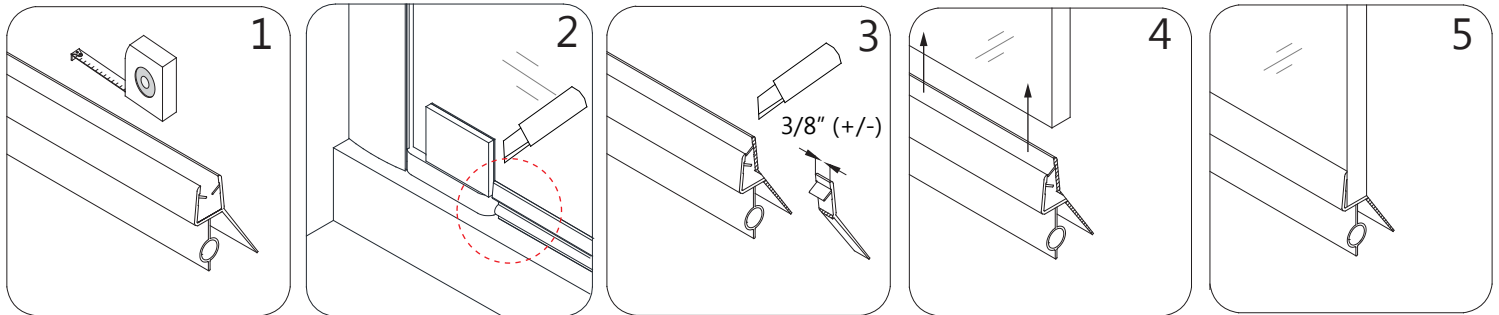

Fig 16
16. Cut the **Sweep Vinyl Seal (#11)** to the width of the **Door Glass (#03)**. Next, trim the **Sweep Vinyl Seal (#11)** to size up to the bottom pivot. Close the door and notch off the deflector on the inner side of the **Sweep Vinyl Seal (#11)** where it overlaps the strike vinyl when the door is closed (Fig 16.3). Press the **Sweep Vinyl Seal (#11)** tightly onto the bottom edge of the **Door Glass (#03)**. (Fig 16)